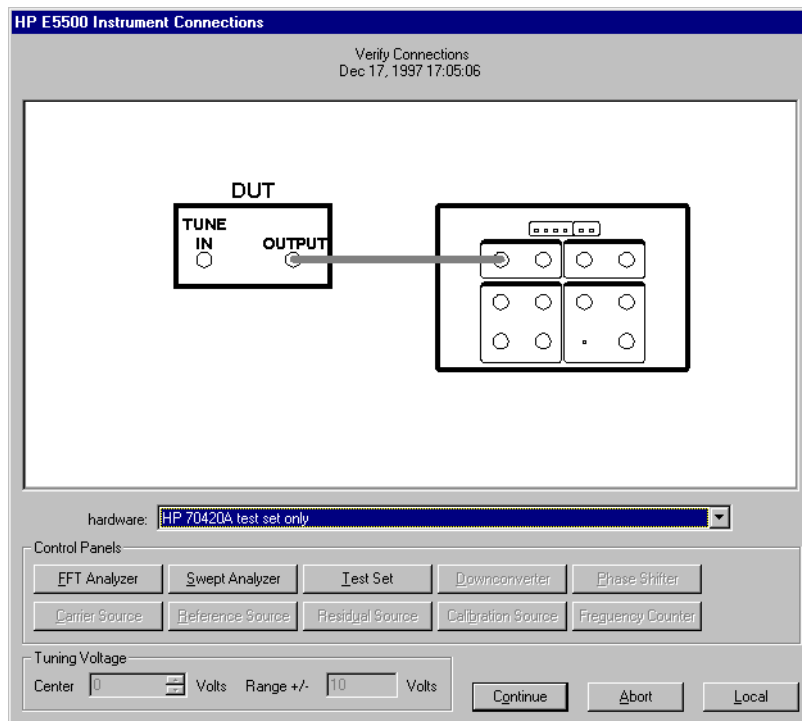

Figure 13-9 Connect Diagram for the AM Noise Measurement
- 3 When the **Connect Diagram** dialog box appears, click on the hardware down arrow and select your hardware configuration from the pull-down list. See Figure 13-9